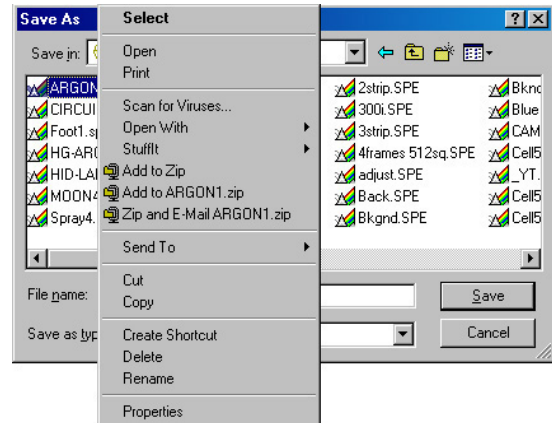

Figure 57. Right-click File Operations menu
2. Position the mouse cursor on the name of the file you want to delete and click the *right* mouse button. This will open the “right-click” File operations menu, as shown in Figure 57.